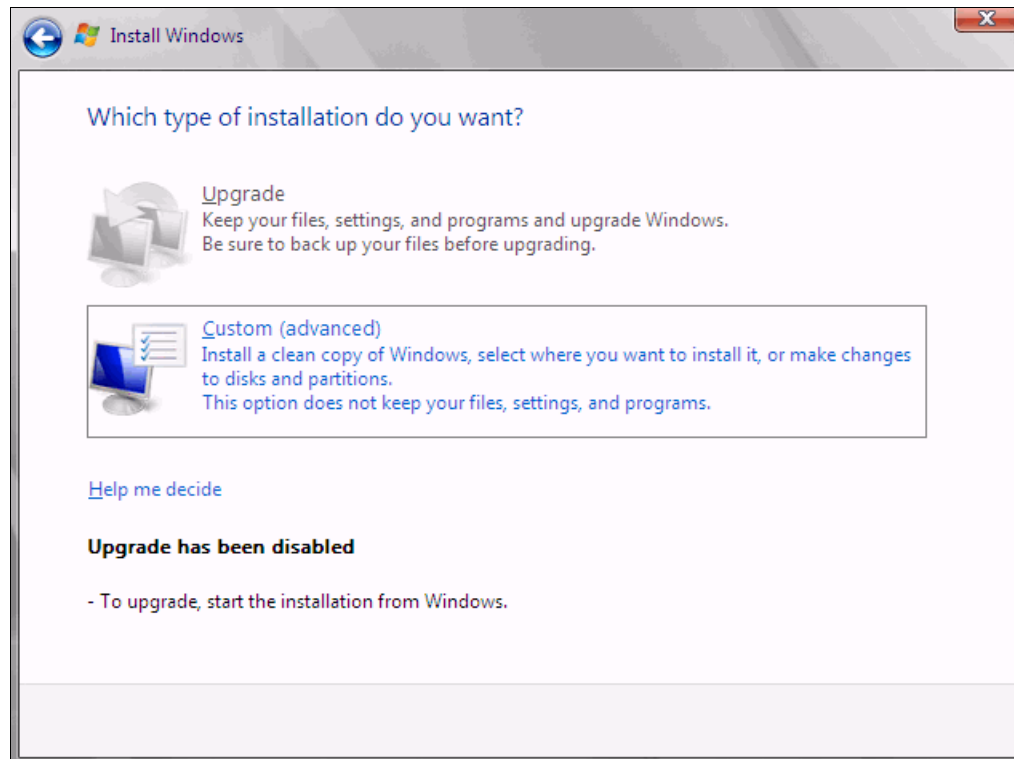

Figure 9-144 Selecting to install a clean copy of Windows
13. For the type of installation (Figure 9-144), select **Custom (advanced)** to install a clean copy of Windows. Then click **Next**.